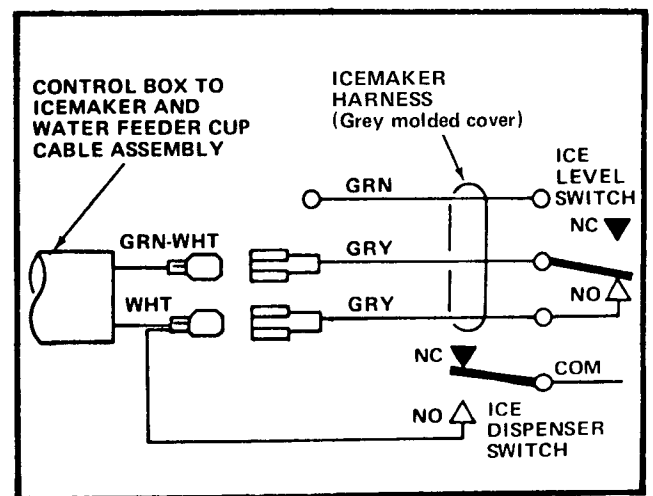

FIGURE IV-5
- V. Attach the 2 quick-disconnect Terminals on the ends of the Icemaker Harness (Grey molded cover) to the quick-disconnects on the Control Box To Icemaker And Water Feeder Cup Cable Assembly. The polarity of the connection is not imperative. See Figure IV-5.